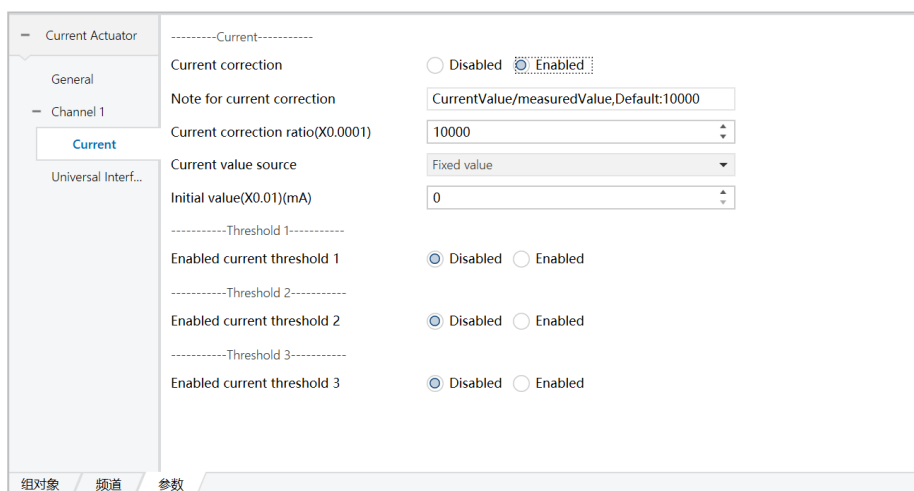

Figure 6.2.2
(2) Click the option in the red box above, set the parameters, the following Channel 1 as an example, as shown in Figure 6.2.2